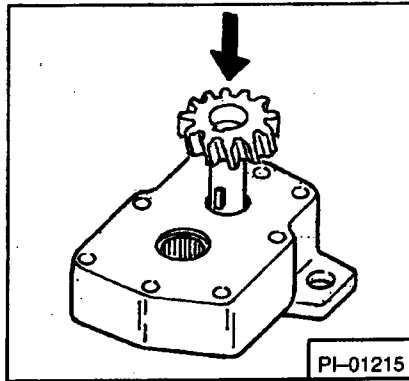

Fig. 4-34 Machined Faced Of Pump
5. Set pump body with machined face up (Fig. 4-34).
6. Install key in drive shaft and lower drive gear over it (Fig. 4-34).